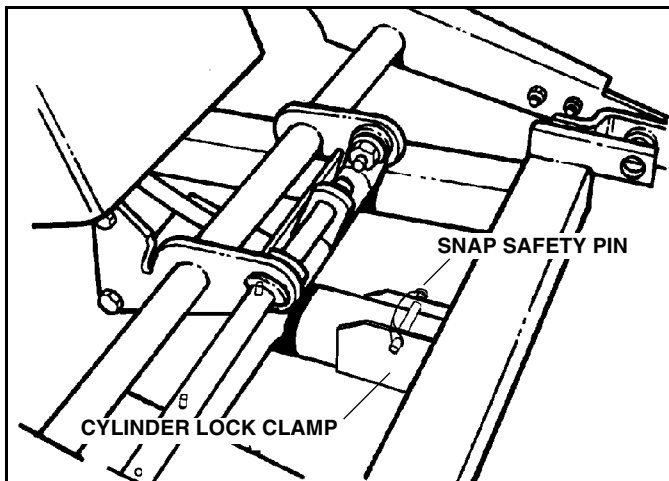

Figure 1-2
4. Position the cylinder lock clamp around the exposed (chrome) portion of the lift cylinder and install the pin. (See Figure 1-2)